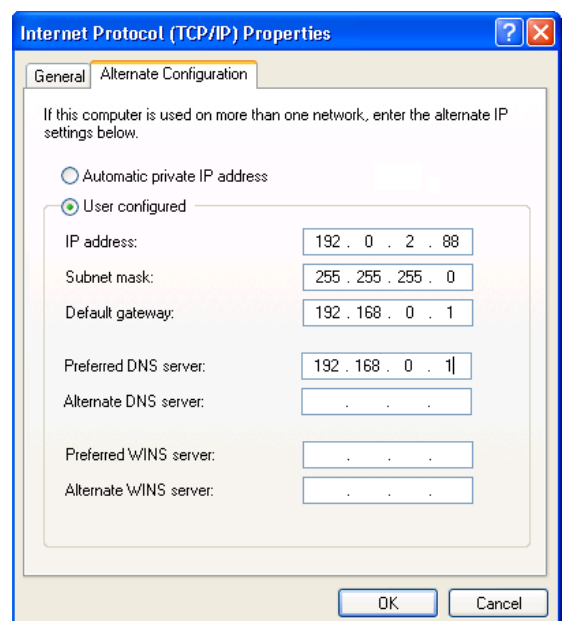

Figure 2.
7. Select **User configured** and enter e.g. the 192.0.2.88 IP address and 255.255.255.0 as **Subnet mask** as shown on Figure 2.